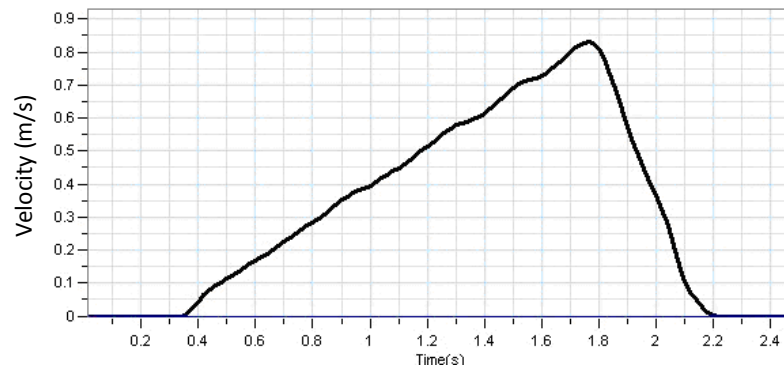

Figure 2
1. From the graph (Figure 2) you can see that the velocity increases linearly over time. That means that the acceleration is constant, as the acceleration is the rate of change of the velocity.